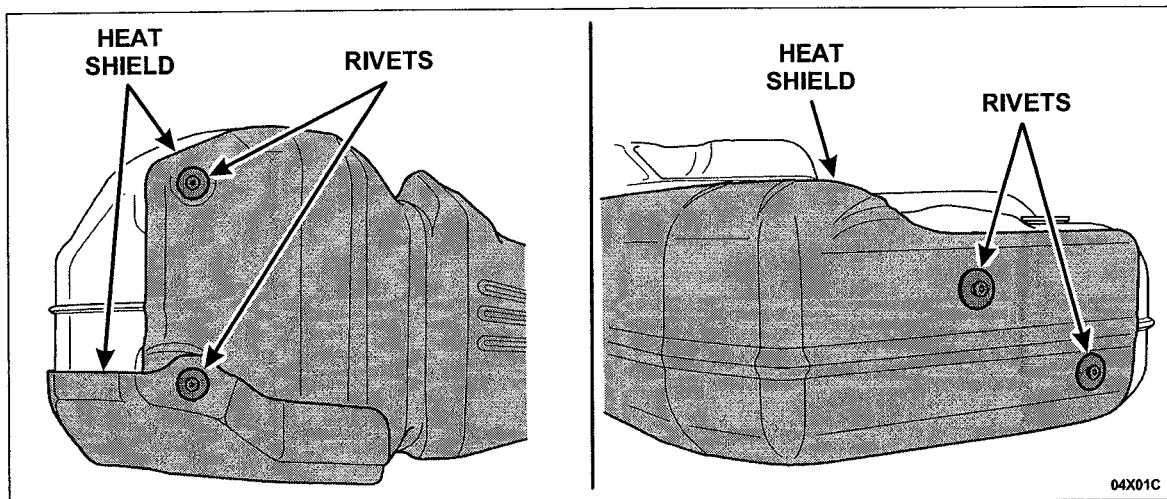

FIGURE 3
2. Remove the heat shields by pulling the retaining rivet center pins outward then prying the rivets from the shields. See Figure 3.